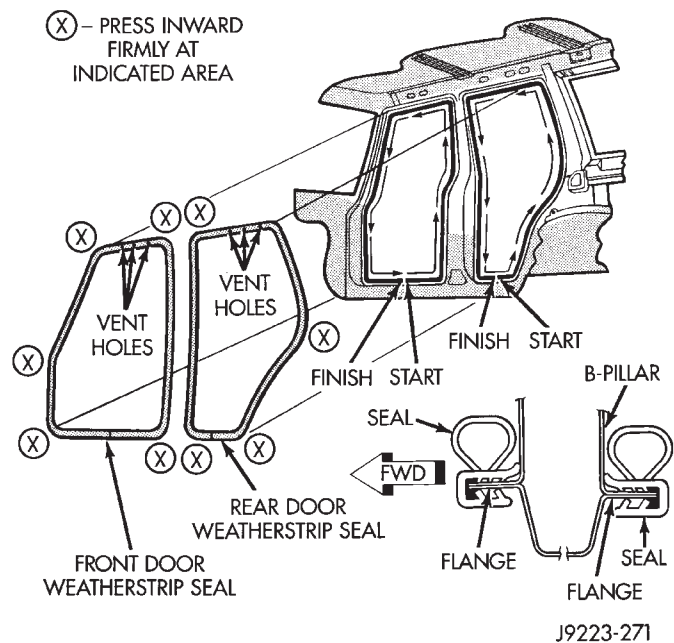

Fig. 108 Door Opening Weatherstrip Seals
- (1) When installing a door opening weatherstrip seal, start at the door sill center line.
- (2) Use adhesive along with the push-studs to aid in retaining a weatherstrip seal.
- (3) Move upward and around the perimeter of the door opening and seat the weatherstrip seal on flange (Fig. 108).
- (4) Install the front door secondary seal with plastic blind rivets.